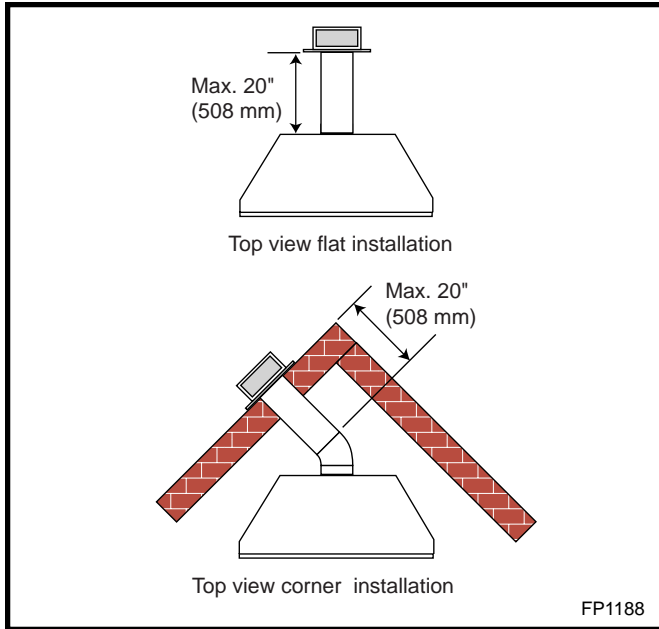

Fig. 19 Rear vent application, maximum horizontal distance.
- The maximum horizontal distance between the rear of the appliance (or end of the transition elbow in a corner application) and the outside face of the rear wall is 20" (508 mm). (Fig. 19)
Measure the horizontal length requirement for the venting including a 2" (51mm) overlap; i.e., from the elbow to the outside wall face plus 2" (51mm). (Fig. 19)
used, attach the elbow to the appliance with sealant in the same manner then attach the venting to the elbow. It is not necessary to seal the 45° elbow to the starter pipe or termination in the straight out and 45° installation in Figure 19.